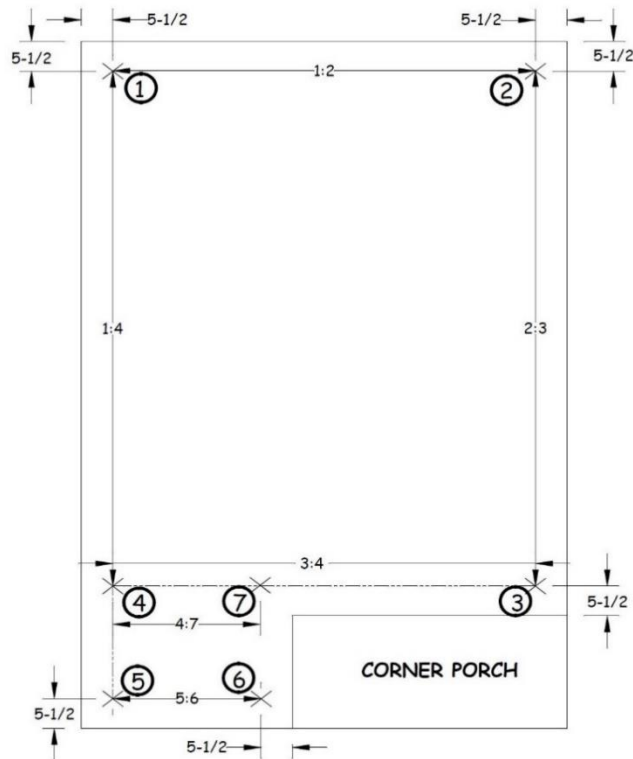

Figure 3-2. Wall Layout with Corner Porch.
1. **Create a Rectangle** on the main deck (see Figure 3-2).